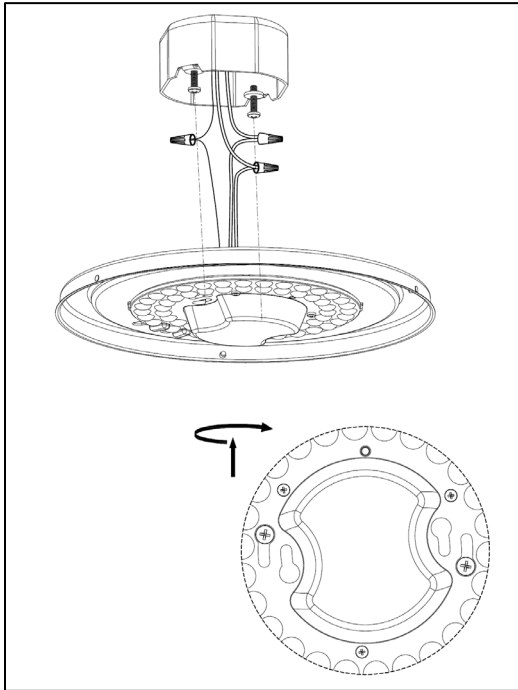

Figure 10
4. Hold housing assembly (2) in one hand and with the other hand position wires up and into Junction box. (See Figure 10).
5. Rotate the housing assembly (2) into keyhole's lock position. (See Figure 10).